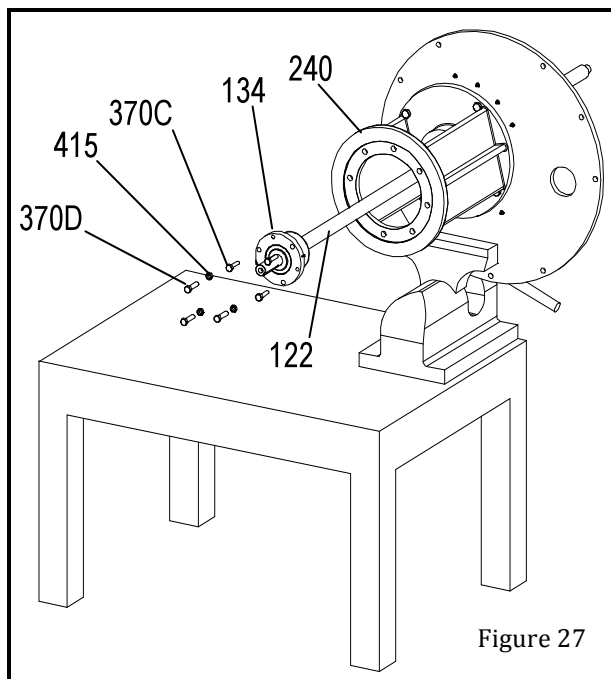

Figure 27
24. Remove locking bolts (370C) and slide bearing shell (134) assembly with shaft out through the motor support (240) (Figure 27).